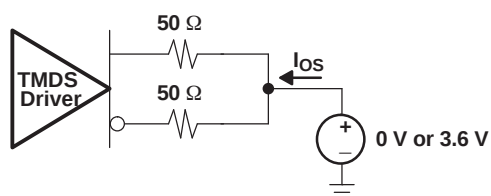

Figure 5. Short Circuit Output Current Test Circuit
| I (OS)                  | Short circuit output current                                           | See Figure 5                                                                                                                                                                                                                         |                                      | –12                   |                    | 12                    | mA                    |